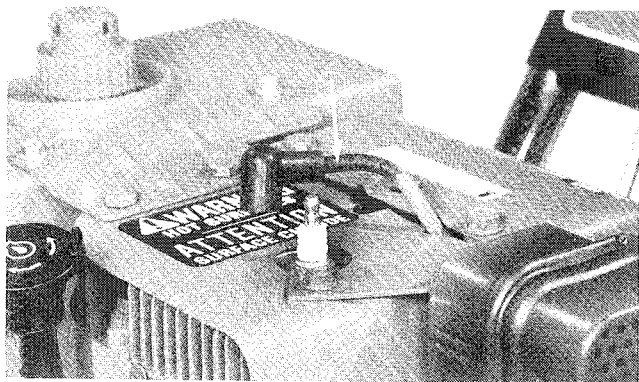

Figure 31
2. Pull wire off spark plug (Fig. 31) and remove plug from cylinder head.
4. Push the wire onto the spark plug (Fig. 31).